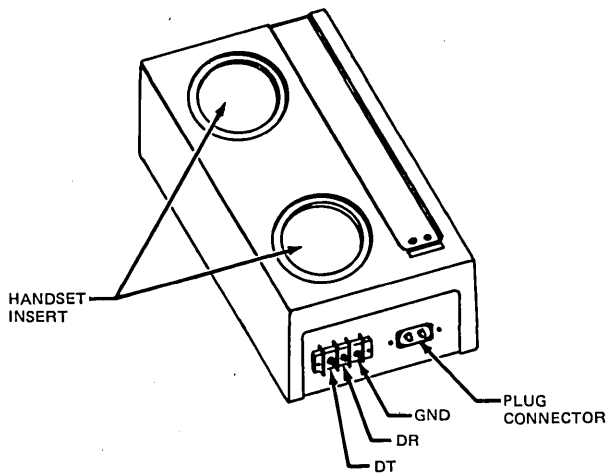

Figure D-7. Acoustic Coupler
- c. Acoustic coupler connection only. Connect lugged leads at other end of cable to connections DT and DR (polarity unimportant) on acoustic coupler (figure D-7).